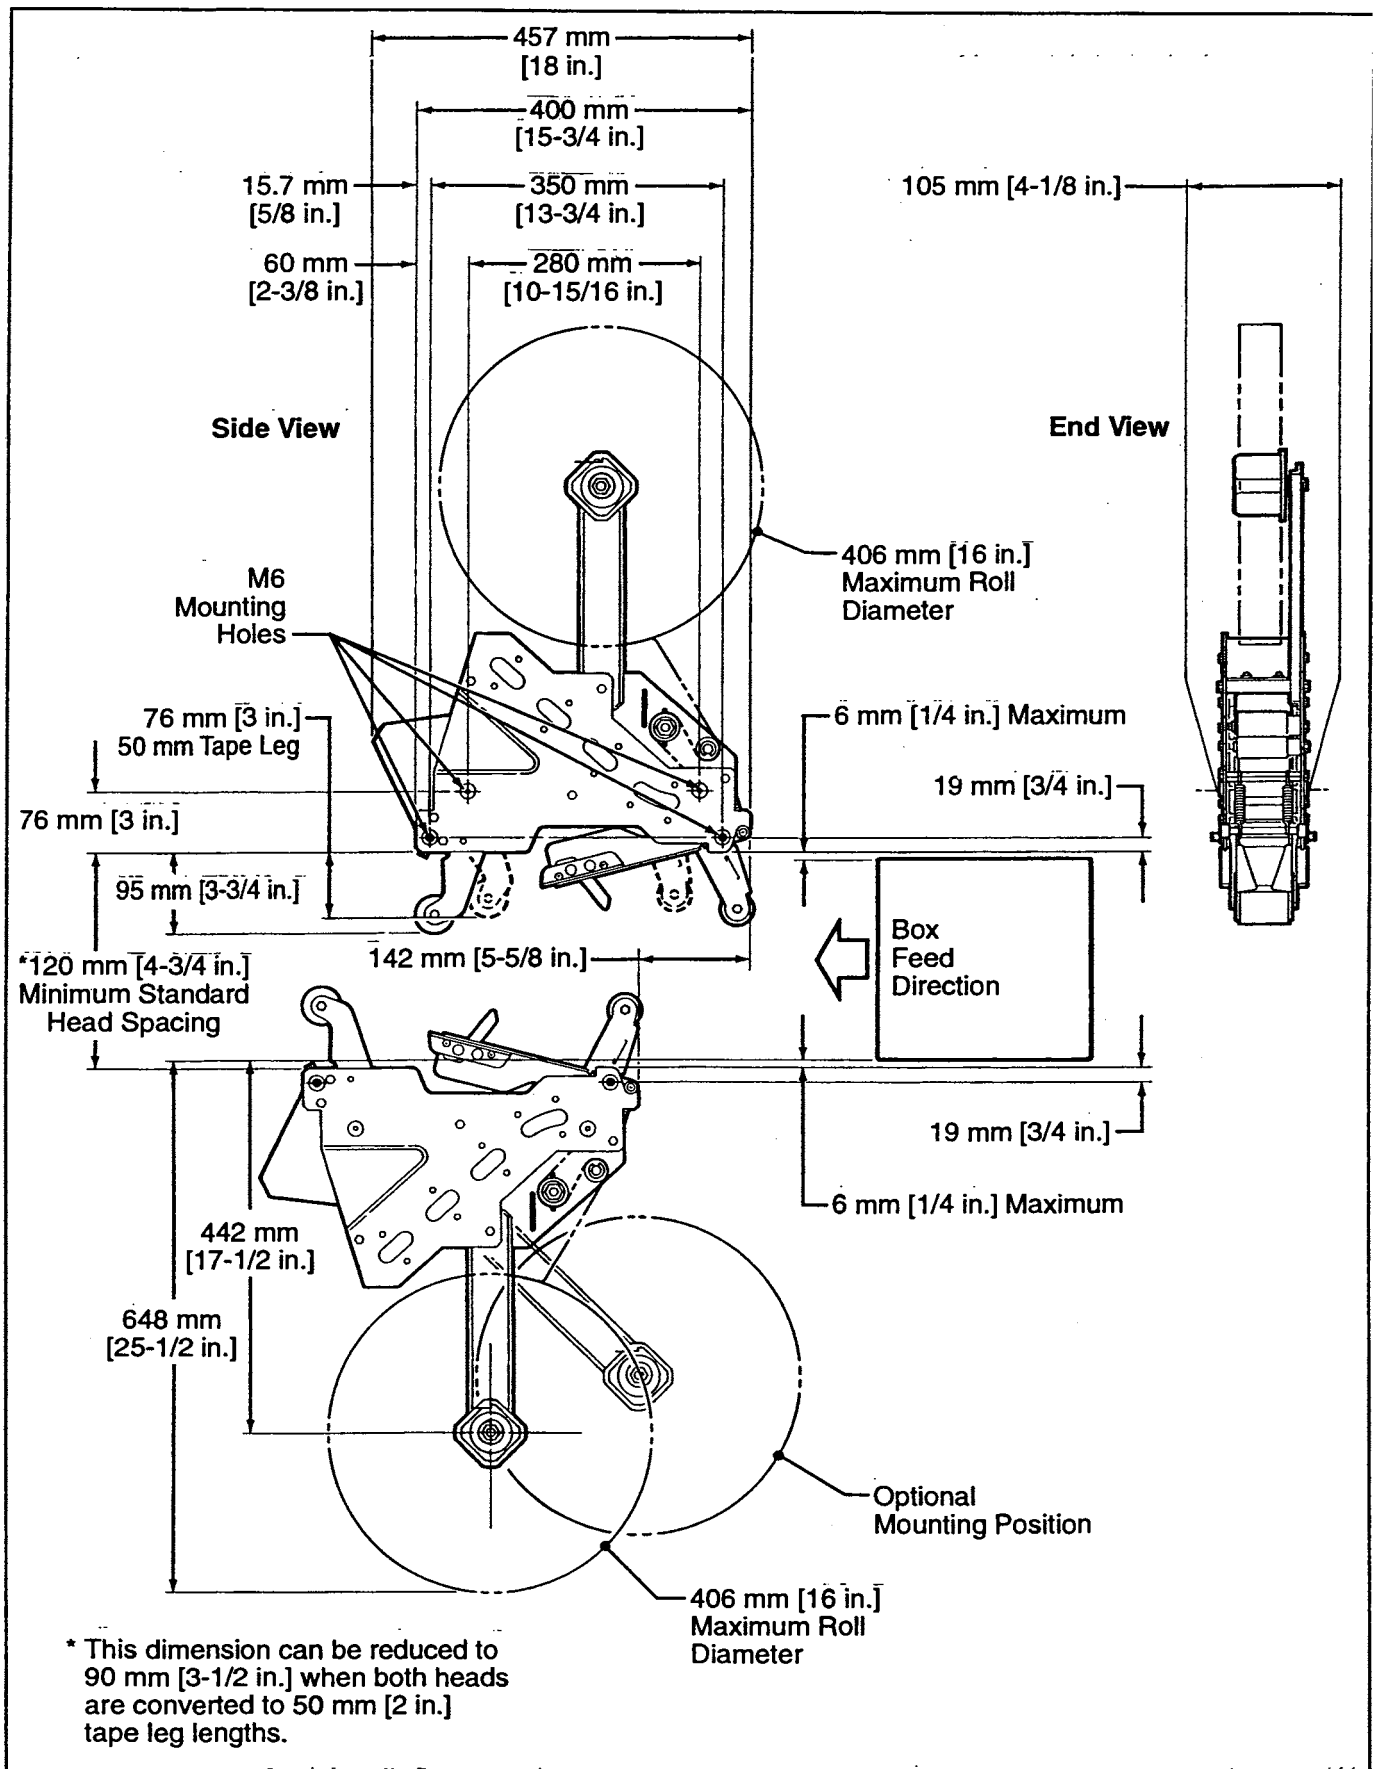

Figure 2-1 – Dimensional Drawing
The taping head assembly can be used in converting existing or in custom made machinery. It can be mounted for top taping or bottom taping. Refer to box size specifications on page 3, and Figure 2-1 on page 4, for the following points in making such installations:
3. Figure 2-1 illustrates the typical mounting relationship for opposing taping head assemblies to allow taping of box heights down to 90 mm [3-1/2 inches]. **To tape box heights down to 70 mm [2-3/4 inches], the taping heads must be completely staggered so only one tape seal is being applied at one time.**